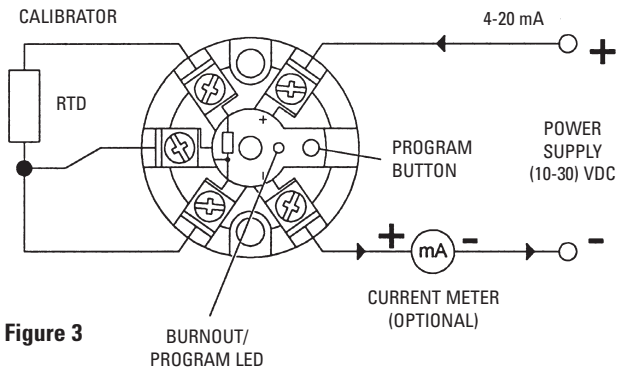

Figure 3
- Refer to Figure 3, connect resistance box to SEM203P input terminals using three wire connection. Connect output to a DC supply, observe polarity. Turn power on and allow 1 minute warm up period.
- Refer to Figure 3. Connect output to a DC supply, observe polarity. For this menu the input can be connected or open circuit. Turn power on.
- Refer to Figure 3. Connect sensor or resistance box to SEM203P input terminals using three wire connection. Connect output to a DC supply, observe polarity, connect current meter in series with loop. Turn power on and allow 1 minute warm up period.